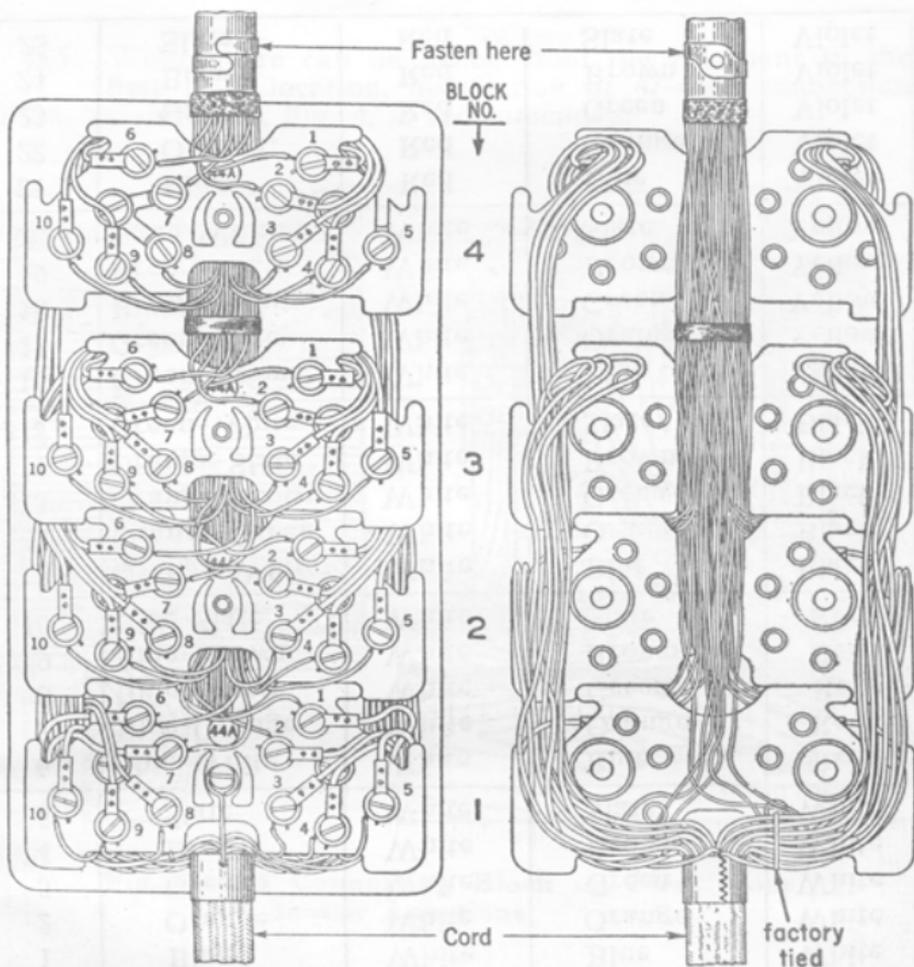

Fig. 19—Four 44A Connecting Blocks Used with 560-Series Key Telephone Sets—Use a 101C and a 101A Cover
4.09 Fig. 6 shows the 47B connecting block mounted on a 43A bracket and placed in a conduit outlet box. Mount the 47B block on the 43A bracket with the station wires in the rear of the block and the cord passing through center hole in the block as shown. Slip the cord through the outlet box cover in the right direction before attaching the cord to the connecting block. Cord the block in the manner shown in Fig. 19. Machine screws for attaching bracket to outlet box and block to bracket are furnished with the bracket.